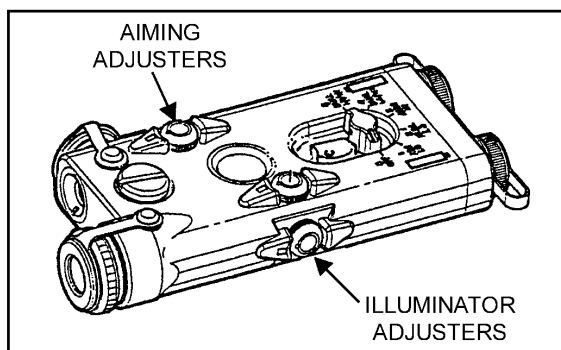

Figure F-13. Boresight adjusters.
(8) **Boresight Adjusters** (Figure F-13). The AN/PEQ-2A is equipped with boresight adjusters for zeroing the aiming beam and illumination beam. The AN/PEQ-2A adjusters move the beams in true horizontal and vertical directions. When zeroing the AN/PEQ-2A, it is best to zero the aiming beam to the weapon and then align the illumination beam to the aiming beam.